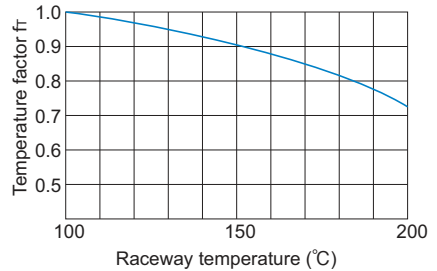

Fig.2 Temperature Factor (f_T)
- f_T : Temperature factor (see Fig.2 on B0-11)
If the temperature of the environment surrounding the operating LM System exceeds 100°C, take into account the adverse effect of the high temperature and multiply the basic load ratings by the temperature factor indicated in Fig.2.